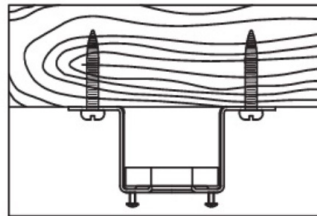

Fig. 4
Fix the installation bracket (1) to the wooden ceiling with 4 wood screws (of at least 7-cm thickness). Fig. 4